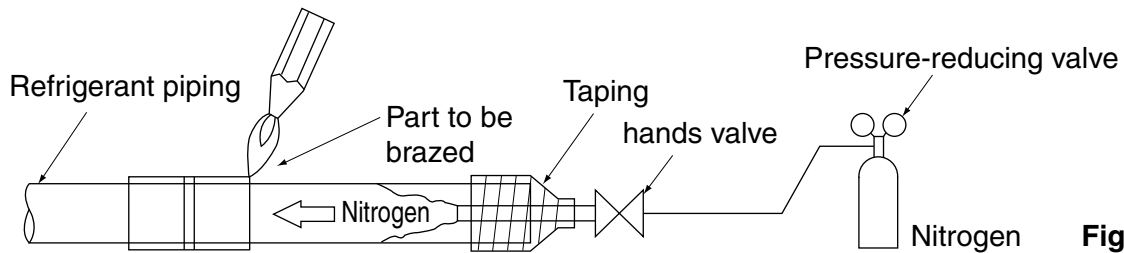

Fig. 16
2. When brazing after having nitrogen flow through the pipe and substituting nitrogen for air, it is appropriate to set the nitrogen pressure to about 0.02MPa with a pressure reducing valve. **(Refer to Fig. 16)**